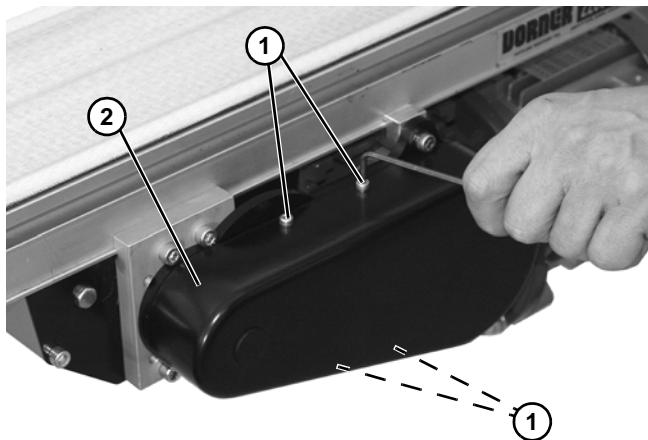

Figure 14
1. Remove four (4) screws (Figure 14, item 1) and remove cover (Figure 14, item 2).
4. Install cover (Figure 14, item 2) with four (4) screws (Figure 14, item 1). Tighten screws to 35 in-lb (4 Nm).
- Install cover (Figure 14, item 1) with four (4) screws (Figure 14, item 2). Tighten screws to 35 in-lb (4 Nm).
- Remove four (4) screws (Figure 14, item 2) and remove cover (Figure 14, item 1).